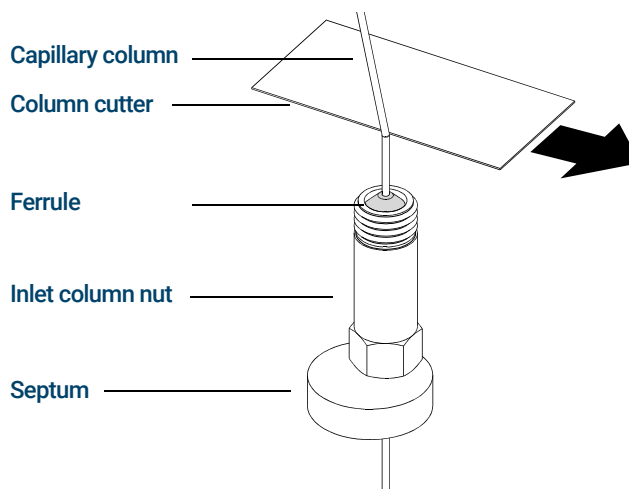

Figure 18. Preparing a capillary column for installation (standard inlet column nut shown)
- 2 Wearing clean gloves, slide a septum, column nut, and conditioned ferrule onto the free end of the column. **Figure 18** shows a standard inlet column nut, but the nut is similarly positioned for a self-tightening column nut. The tapered end of the ferrule should point away from the column nut for a column attachment to an inlet.